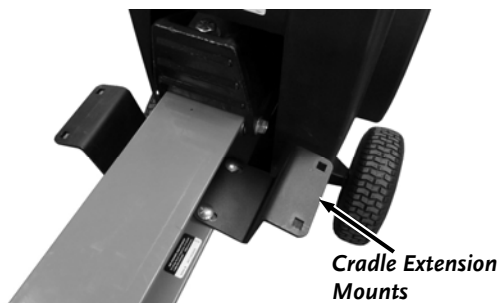

Figure 5
3. Install the Cradle Extension Mounts using four 3/8-16 X 1" Flange Bolts and 3/8-16 Flanged Locknuts by hand but do not tighten (**Figure 5**).